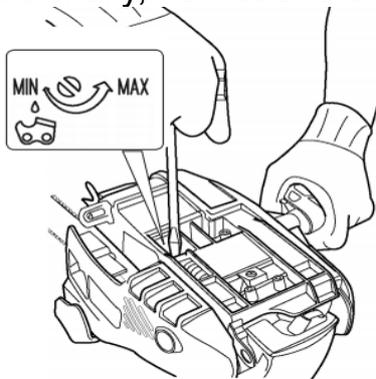

Fig.30
- 2) When necessary, adjust the chain lubricating oil flow by turning the adjustment screw of the oiler on the bottom of the chain saw using the screwdriver. (Fig.30) Increase the oil flow by turning the oil pump adjusting screw anticlockwise.